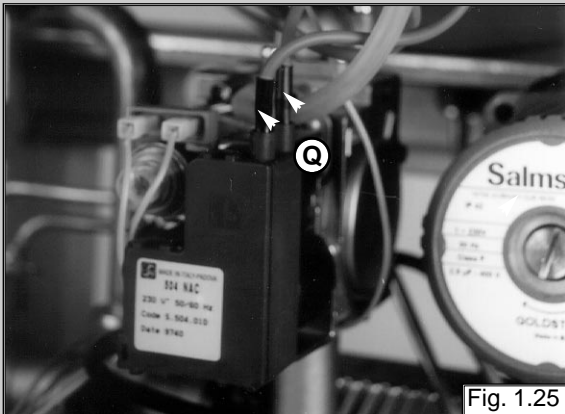

Fig. 1.25
1. Disconnect ignition leads "Q" by pulling upwards (see fig. 1.25);